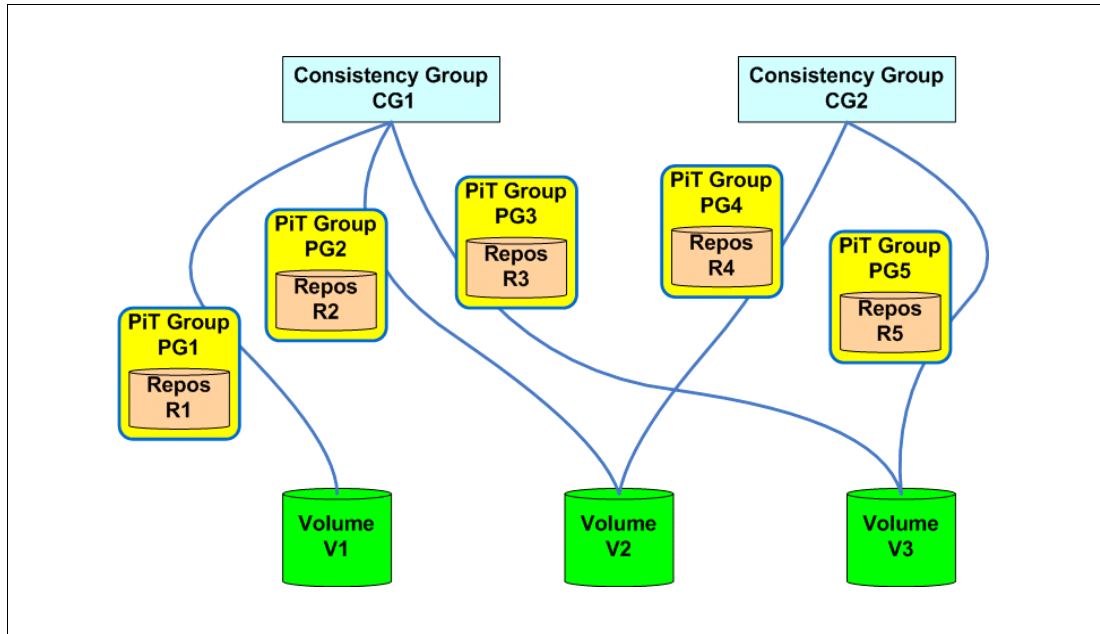

Figure 8-69 Consistency group - member overlap
**Note:** A read/write Enhanced FlashCopy logical drive requires an overall repository. The overall repository is created initially with one individual repository logical drive. However, the overall repository can contain multiple repository logical drives in the future for expansion purposes, as shown in Figure 8-69.